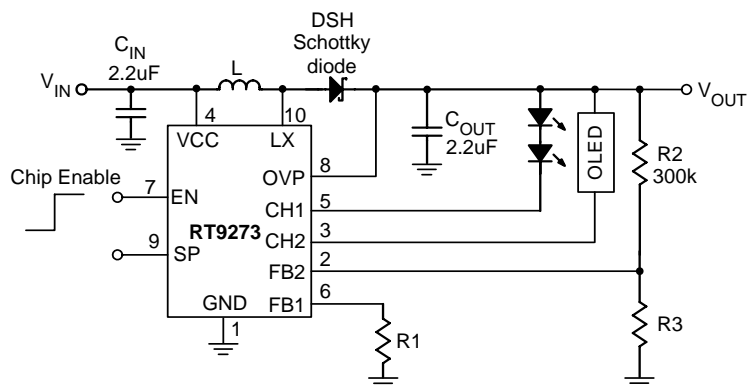

Figure 1. Dual panel 2LEDs + OLED mobile phone power solution
- Figure 1 is for PMOLED power ground connected to CH2 but not for OLED driver digital ground.